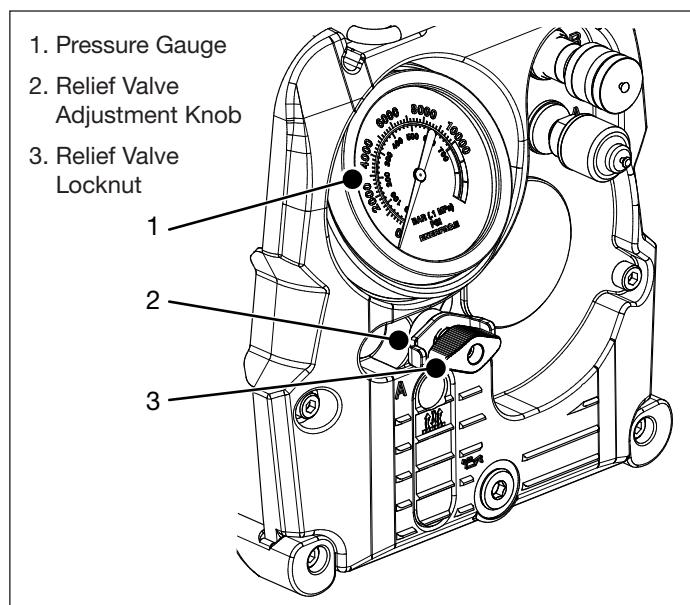

Figure 7, Relief Valve Adjustment
3. Loosen the relief valve locknut and turn the relief valve adjustment knob counterclockwise until there is a light drag when turning. Refer to Figure 7.